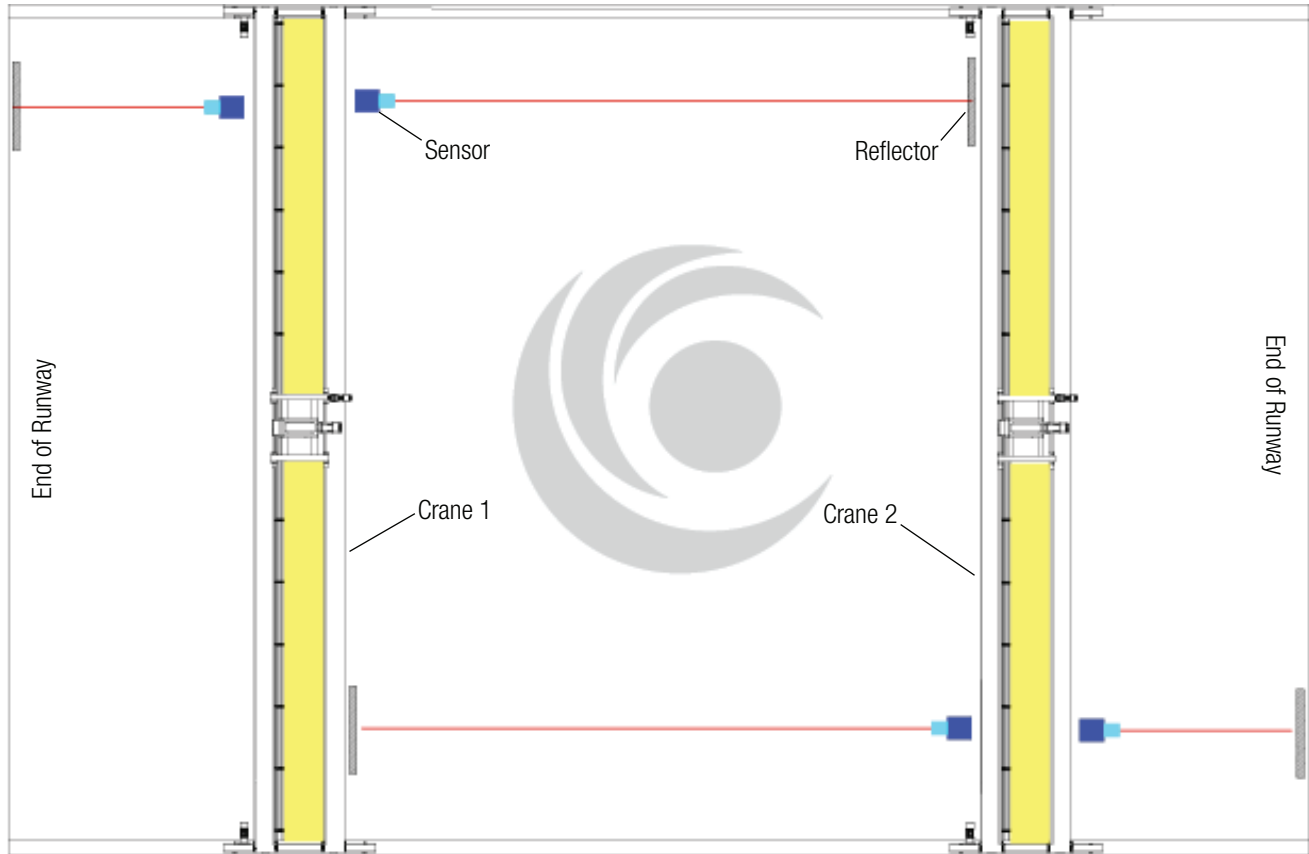

Figure 4-4
4.3.1 Included below is a general sensor target installation, your specific installation may vary. See **Figure 4-4**.